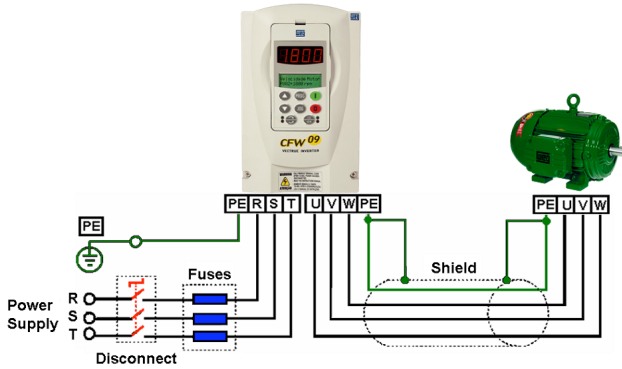

Figure 1 - Power and Grounding Connections
2. For three-phase input power connect the incoming power leads to the R, S, and T connections on the power terminal and connect the GROUND lead to PE on the chassis (Refer to Figure 1). For single-phase input power connect the power leads to R and S.
3. Connect the motor leads to the U, V, and W connections on the power terminal and connect the GROUND lead to PE on the chassis (Refer to Figure 1). **Note:** Only three-phase AC motors can be used.